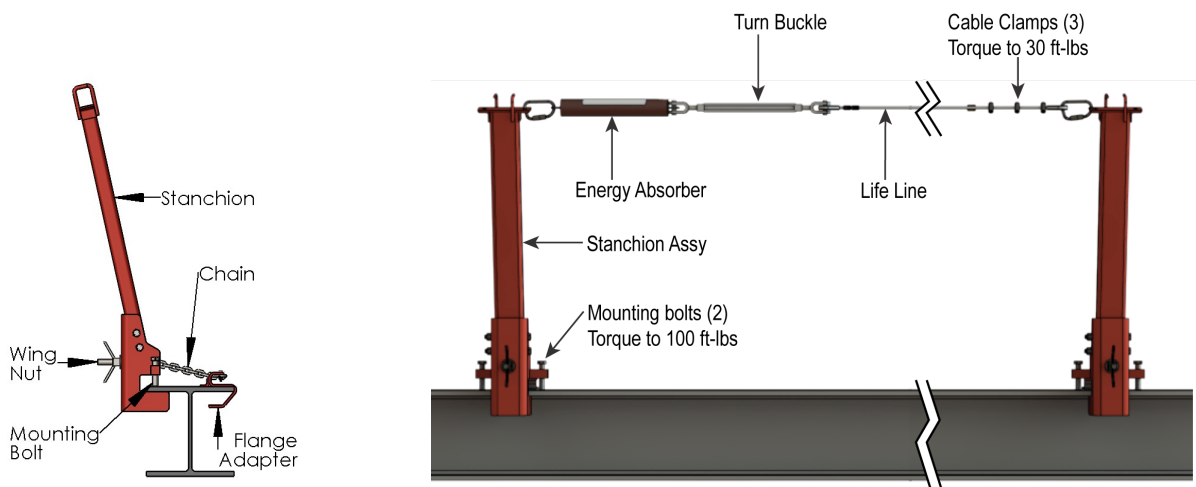

Figure 1
2. Install Energy Absorber to end Stanchion Assembly with carabineer, welded tab end of energy absorber toward stanchion, attach turnbuckle to energy absorber, and wire rope assembly with thimble installed to turnbuckle as shown in fig 1.